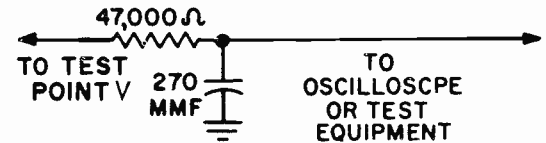

Fig. 5 DECOUPLING FILTER
Connect VTVM high side to test point "V" through a decoupling filter, see Figures 5 & 7. Connect low side to chassis.
12. Disconnect VTVM, and connect oscilloscope to decoupling filter in Figure 5.